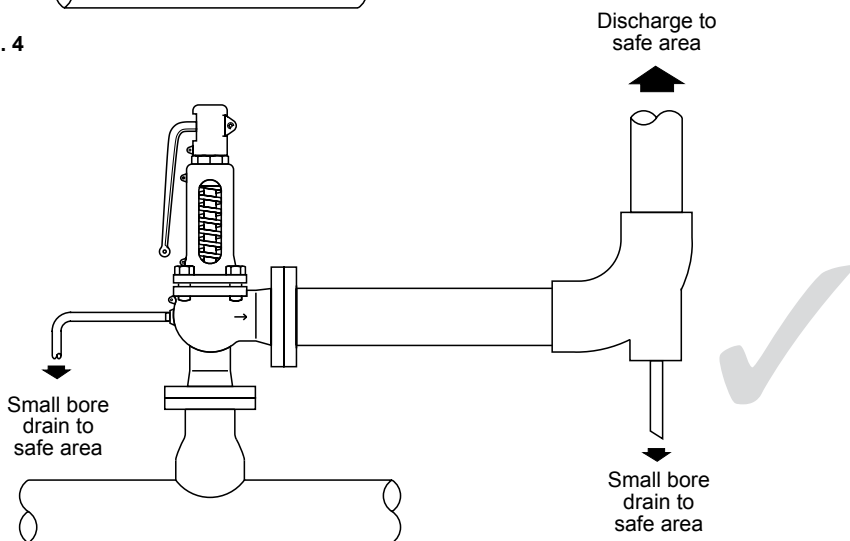

Fig. 5
- 6.8** Where the outlet pipework is directed upwards (i.e. on steam service), a small bore drain should be provided at the lowest point (Figure 5). This drain should be taken to a place where any discharge will not create a hazard or inconvenience.